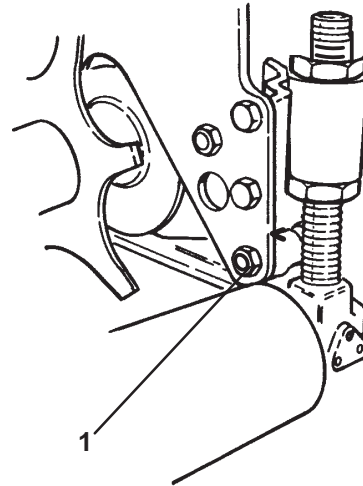

Figure 3
4. Secure spacer and skid to sideplate with 1/2-13 x 1 1/4" capscrew. Bolt to be installed from outside of sideplate (Fig. 3).